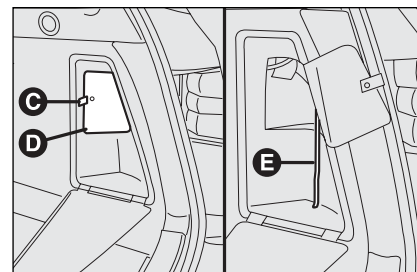

fig. 131
- ☐ hold the tongue **C**-fig. 131 to open the second flap **D**;